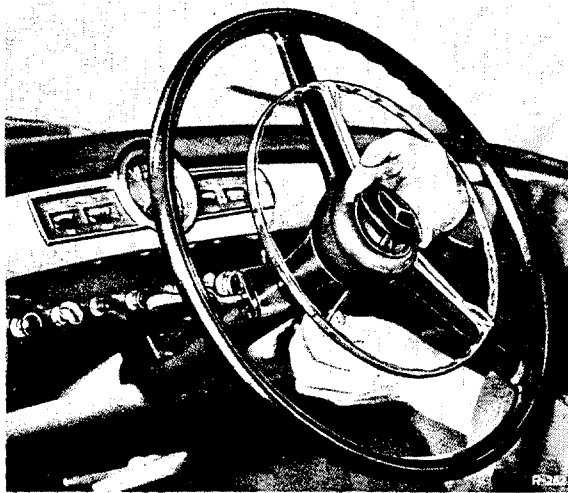

Fig. L 2/1
Then use a piece of welding rod approximately 20 cm long to press the trademark plate off the steering wheel from below (Fig. L 2/1).
3. Pull out the cotter pin for the horn ring adjusting nut and unscrew the adjusting nut. Take off the horn ring together with contact disk, compression spring, insulating plate and contact cup (see Fig. L 2/5).